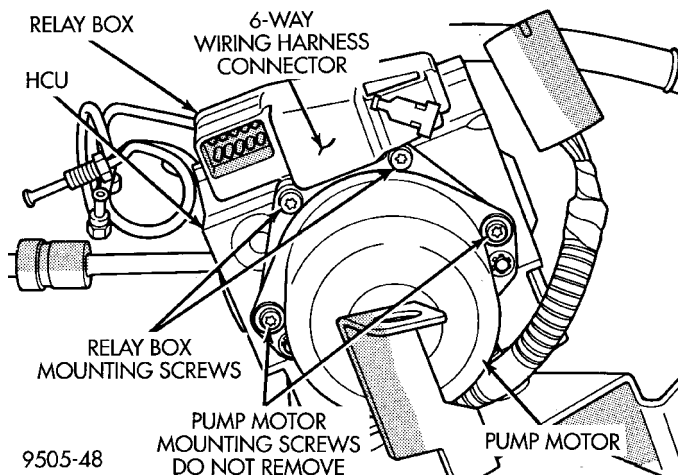

Fig. 24 Relay Box To HCU Mounting Screws
(1) Disconnect negative (ground) cable from the battery and isolate the cable.
(2) Remove the HCU from the vehicle. See Hydraulic Control Unit in the Removal And Installation Section of the Antilock Brake System Section, in this group of the service manual, for the required HCU removal procedure.
(3) Unclip the 6 way wiring harness connector (Fig. 24) from the relay box.
(4) Remove the 2 screws (Fig. 24) attaching the relay box assembly to the HCU. **Remove only the 2 screws mounting the relay box to the HCU do not remove the pump motor mounting screws (Fig. 24).**
(2) Position relay box on HCU and carefully align the terminals on the relay box with the terminals on the pump motor.
(3) Grasp relay box with both hands. Then without twisting or rocking, push relay box onto the pump motor electrical connector as far as possible by hand.
(4) Install and securely tighten the 2 screws (Fig. 24) attaching the relay box assembly to the HCU.
(5) Reconnect the 6 way connector onto the relay box.
(6) Install the HCU back in the vehicle. See Hydraulic Control Unit in the Removal And Installation Section of the Antilock Brake System Section, in this group of the service manual, for the required HCU installation procedure.
(7) Connect the negative (-) ground cable back on the negative post of the battery.
(8) Bleed the base brakes and the ABS brakes hydraulic systems. Refer to Bleeding Base Brake Hydraulic System in Service Procedures of the Base Brake Section and Antilock Brakes Hydraulic System Bleeding Procedure in Service Procedures of the Antilock Brake Section for the required procedures.
(9) Road test vehicle to ensure proper operation of the base and ABS systems.